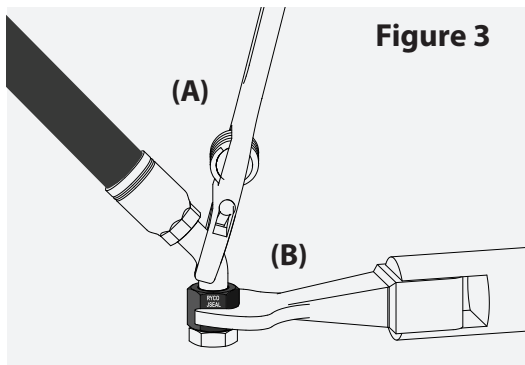

Figure 3
2. Use a suitably sized adjustable wrench (A) to engage the tube portion of the coupling body (as shown in Figure 3) to prevent it from rotating.
3. While holding wrench (A) in position, engage torque wrench (B) and tighten the black JSEAL™ nut to the corresponding assembly torque value listed in Table 1 herein.